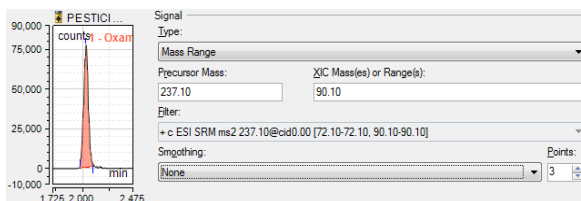

Figure 15: XIC based on parameters
6. Select the appropriate filter from the **Filter** field dropdown. Based on the combination of the **Filter** and **XIC Mass(es) or Range(s)**, an XIC for evaluation will be created in this UI (Figure 15).